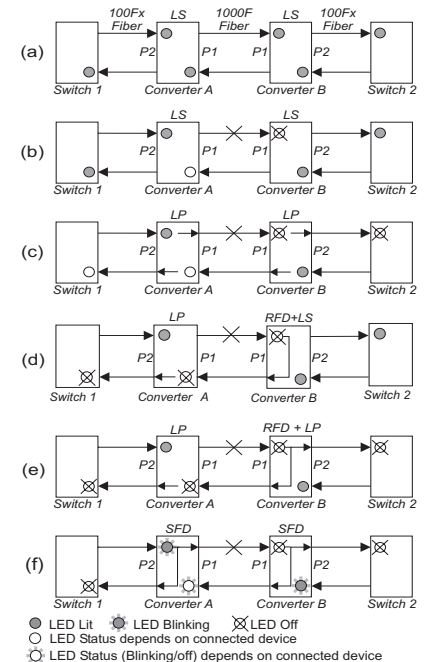

Fig. 2 GX/F Link Modes
In order to accommodate different user needs, the GX/F supports five different linking modes (see Fig. 2).
In "Link Segment" (LS) mode ("Normal" mode), a port transmits a Link signal independently of any received Link at any port. For example, P2 transmits a Link regardless of the receiving of a Link at P1 [Fig. 2(a) & 2(b)].
front-plane port, and a loss of a received Link at one port causes the other front-plane port to drop its link out. For example, P2 transmits a Link only when receiving a Link at P1 [Fig. 2(c)].
In Remote Fault Detection + Link Segment (RFD+LS), the fiber port transmits a Link signal only when receiving a Link at the fiber port. As a result, fiber faults (no Link received at the fiber) are looped-back and can be reported to the network core [Fig. 2(d)].
In "Remote Fault Detection + Link Propagate" (RFD+LP) mode, the P1 port transmits a Link signal only when both it and P2 are receiving Link signals. A loss of a received Link signal at P1 is Looped-back to P1 and propagated to P2, causing both to stop transmitting the Link signal [Fig. 2(e)]. Also, the loss of a received Link at P2 is propagated to both P1 and P2, which stop transmitting the Link signal.
"Symmetrical Fault Detection" (SFD) mode operates similarly to the Remote Fault Detection (RFD) mode. In SFD mode, the loss of a received Link at P1 is Looped-Back to P1 and propagated to P2, causing both to stop transmitting the Link signal [Fig. 2(f)] and also causing blinking in a connected GX/F P1 "Link" LED indicator.